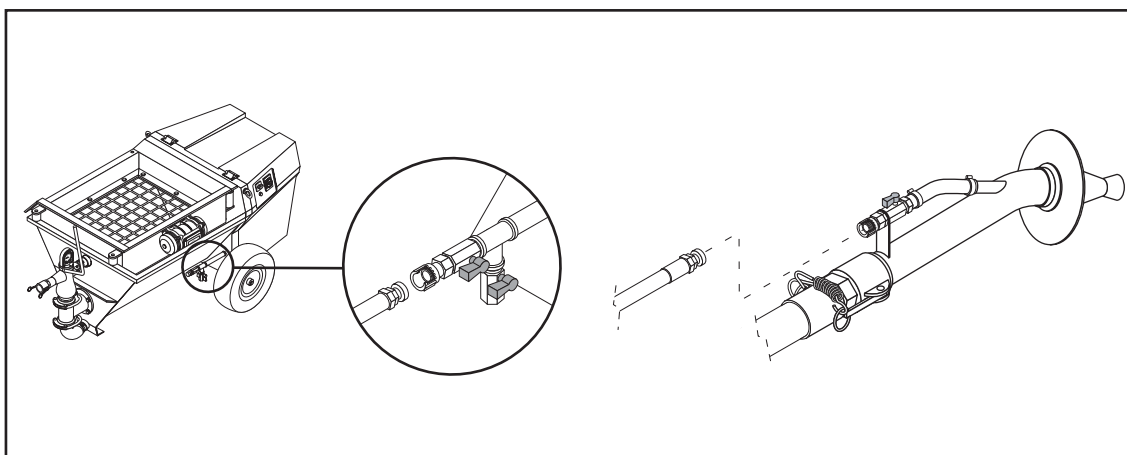

FIG.19
- Connect the air piping to the pneumatic control connection (FIG.19).
- Connect the air piping to the gun connection (FIG.19).